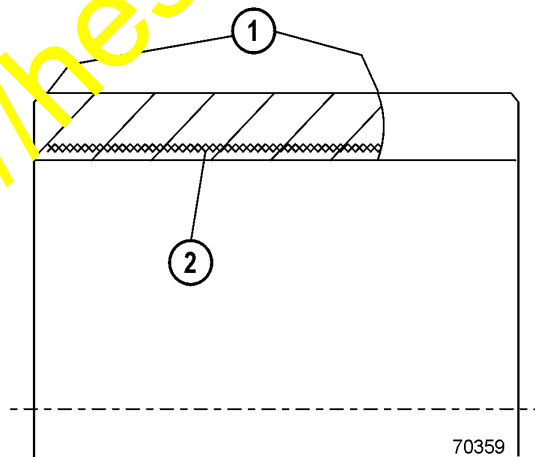

FIGURE 1. TOOTH PATTERNS
1. A wear pattern that extends less than 90% of the face width or is off center. See Item 1, Figure 1.
2. A line of hard contact near the root of the tooth with evidence of pitting or brinelling. See Item 2, Figure 1.